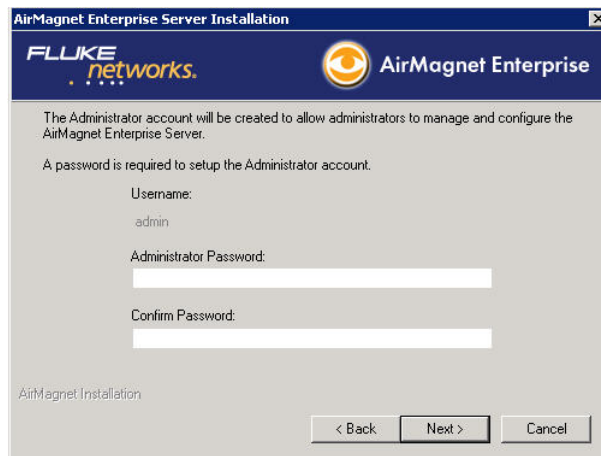

Figure 2-8: Setting user password
- 13) Click **Next**. This will download and install the license file. The installation continues. See Figure 2-8.